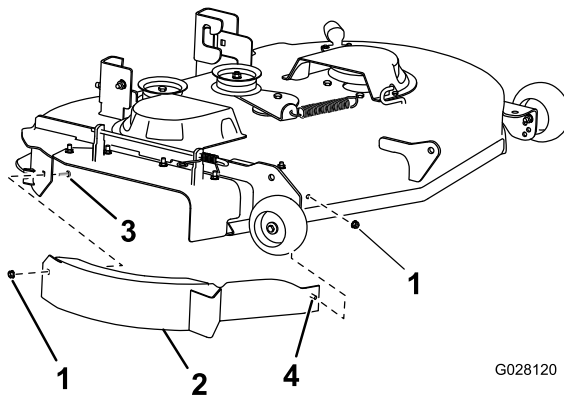

Figure 4
1. Install the baffle assembly to the right-hand side of the mower deck with a carriage bolt (5/16 x 3/4 inch) and 2 flange nuts (5/16 inch) as shown in Figure 4.